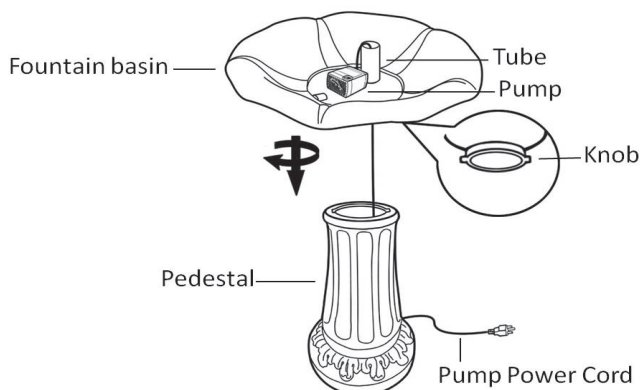

Fig. 1
3. Place the pedestal on a flat, level surface. Lead the power cord through the tube in the middle of fountain basin and through the hole of the pedestal, make it go through the pedestal to the very bottom and pull it out through the power cord slot, align the arrow sign on both the fountain basin and the pedestal, and then twist the basin to the pedestal clockwise until lock. And place the pump upright onto the fountain basin.(Fig.1)